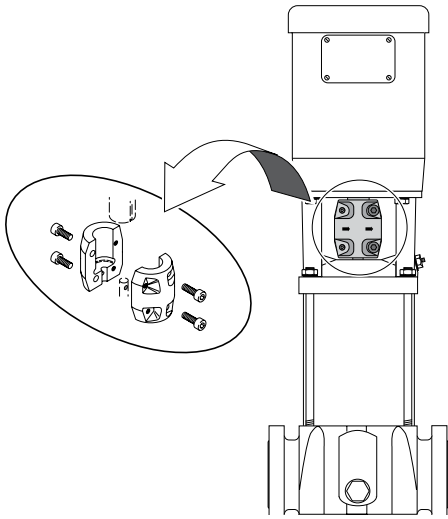

Figure 10 - Remove the Socket Head Screws and the Coupling Halves
3. Remove the coupling guards (4) by prying them loose with a screw driver.
4. Remove the socket head screws (3) and the coupling halves (2) from the shaft (16A). For additional reference, see Figure 10.